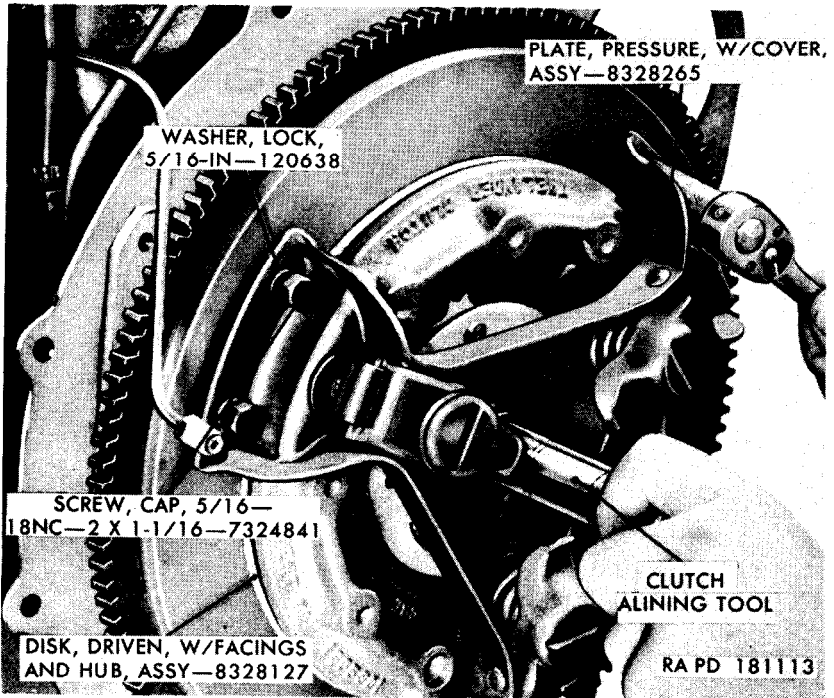

Figure 102. Installing clutch pressure plate w/cover assembly.
b. Install the pressure plate with/cover assembly (fig. 102) and secure it in place with six $\frac{5}{16}$ -inch lock washers and $\frac{5}{16}$ -18NC-2 x $1\frac{1}{16}$ cap screws. Hold the improvised clutch alining tool firmly in place while tightening the pressure plate cap screws. To avoid distorting the plate, tighten the screws a little at a time and evenly around the circle.